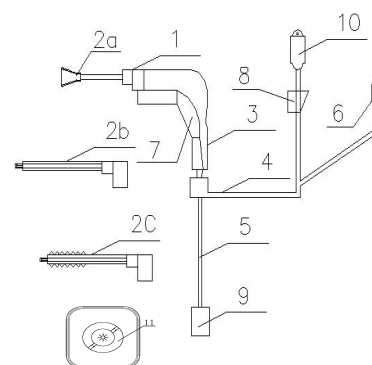

Figure 1
Structure for systems with external battery pack (Figure1)
- 1 Open the package and take out the items. Refer to Figure1.
- 3 Attach debridement tip (2a or 2b or 2c) to Pistol-Grip Handle (3). Push locking ring until connection is locked.
- 5 Connect suction line (5) to Vacuum suction pump (9) (supplied by hospital).
- 6 Guide Irrigation line (4) to (10) Normal Saline Solution (supplied by hospital).
- 7 Switch (7) on “O” means power off, switch on “ / ” means slow phase, switch on “ / ” means fast rate.
- 8 Irrigate the surgical site as needed. To limit irrigation flow, or to prevent dripping, tighten the flow-control clamp (8) that is attached to the irrigation tubing.